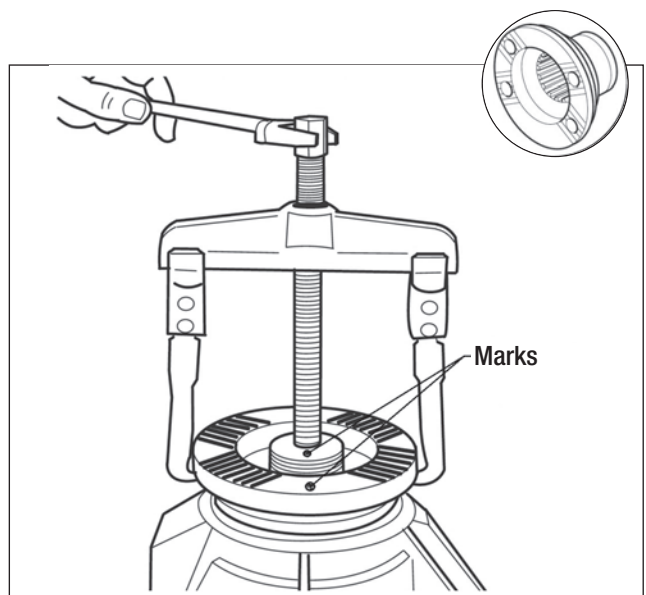

Fig. 4.4
6. If you do not discard the pinion nut and flange, mark the flange position on the pinion and remove it. This may require the use of a standard bearing puller tool. (Fig. 4.4)